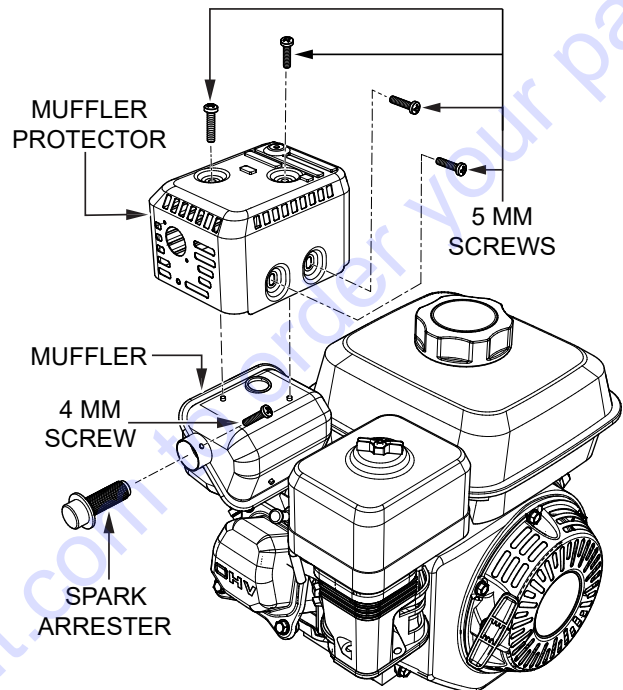

Figure 51. Spark Arrester Access
1. Remove and retain the four 5 mm screws securing the muffler protector to the muffler (Figure 51). Remove the muffler protector and set it aside.
2. Remove and retain the 4 mm screw securing the spark arrester to the muffler, and remove the spark arrester (Figure 51).